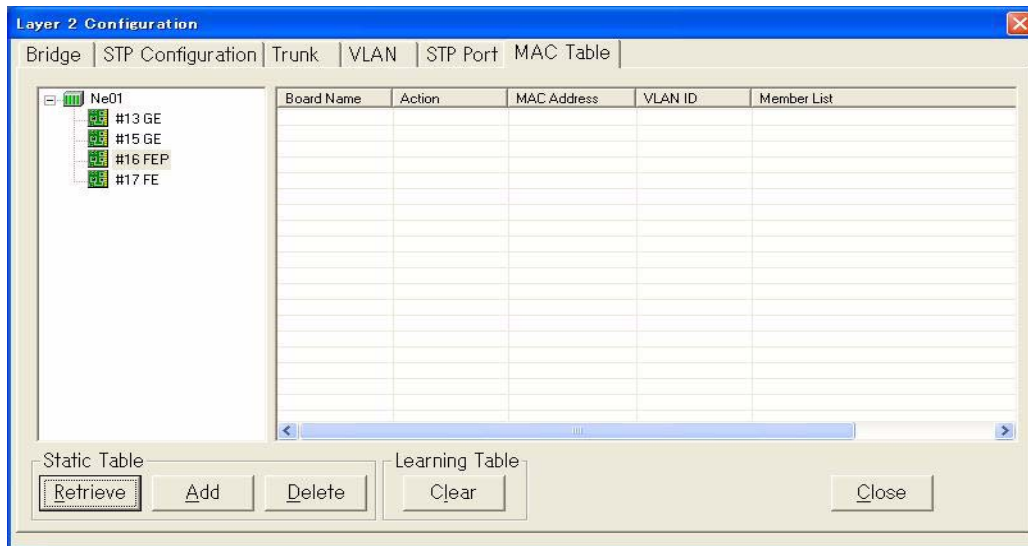

Fig. 4-4-74 MAC Table
- 1 See *Fig. 4-4-42*, select **MAC Table** attribute page on the top of window. *Fig. 4-4-74* appears: